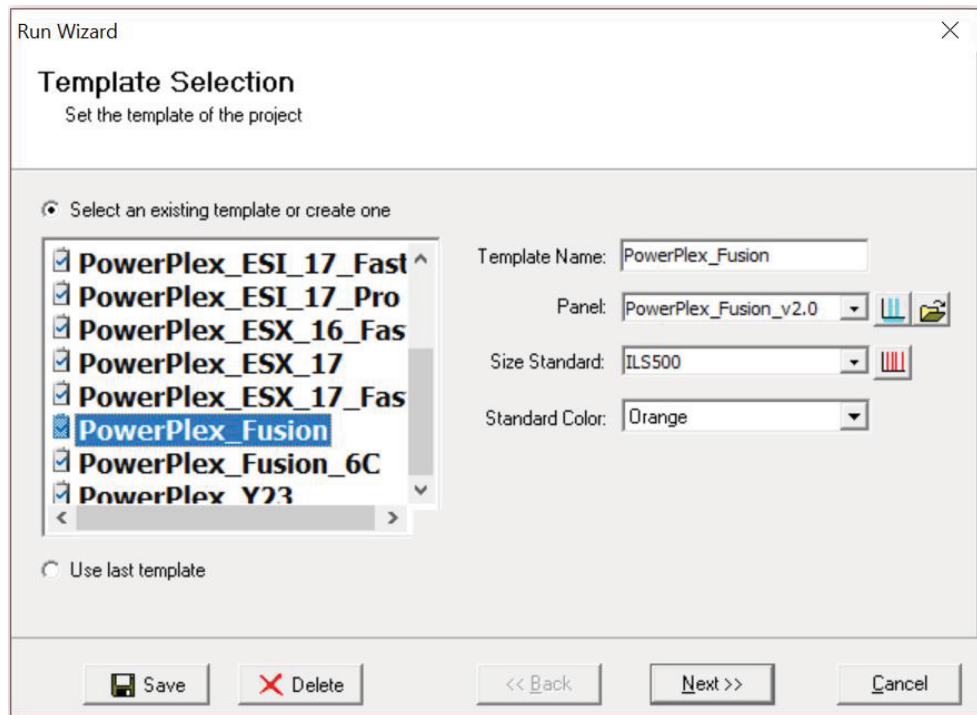

Figure 24. The 'Template Selection' window.
- Click on **Run** in the Magic Wizard or click the **Run Project** icon (green arrow) in the toolbar. The 'Template Selection' screen will appear (Figure 24). Select the PowerPlex_Fusion template and the settings shown in Figure 24. Verify the panel that you created in Step 6 is selected in the panel drop-down field. The Size Standard must be ILS500 and the Standard Color must be Orange. Select **Next**.